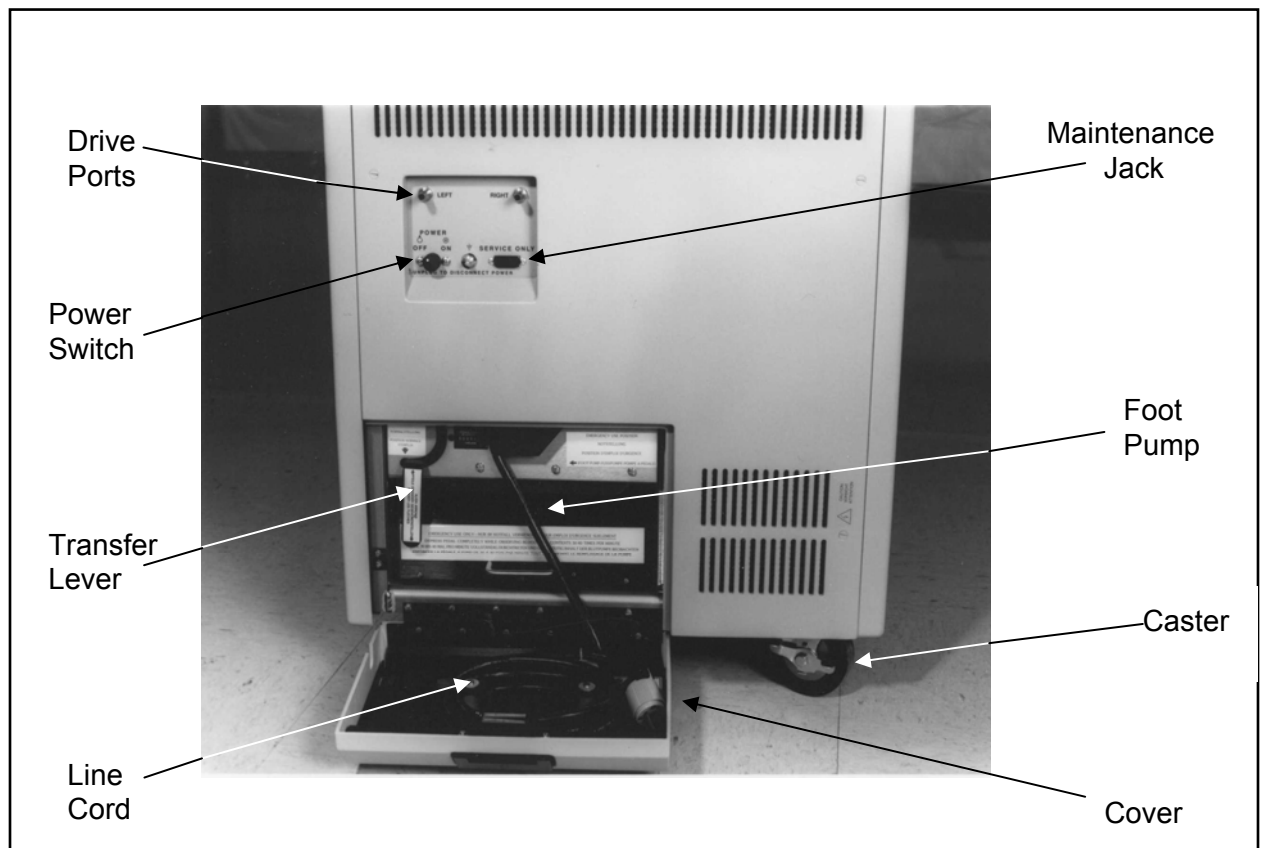

Figure 2-1. BVS Console Rear Panel
- Open the rear cover, (Figure 2-1), remove the line cord and plug into an outlet. (Check that CHARGING indicator is lighted on the front panel.) Close the cover while routing the cord out through the side opening provided. Open the weaning door. Activate the console with the power switch on the rear panel. The system will automatically begin to run its self-test.